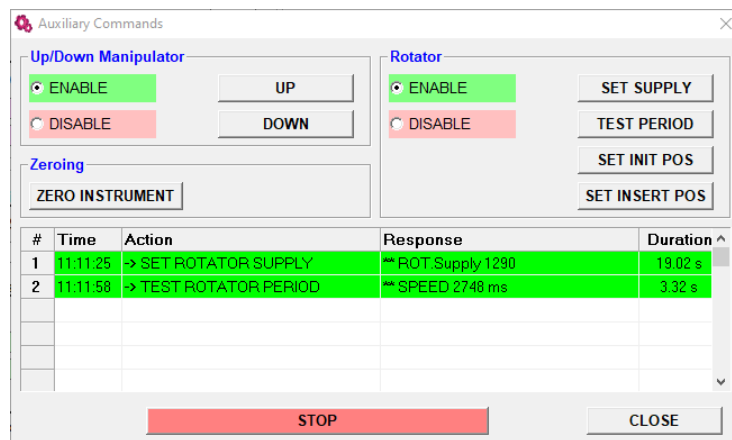

Figure 7: Auxiliary commands
- From upper menu select *Execute > Auxiliary commands* and check the ROTATOR SUPPLY using button *Set supply* in Figure 7.